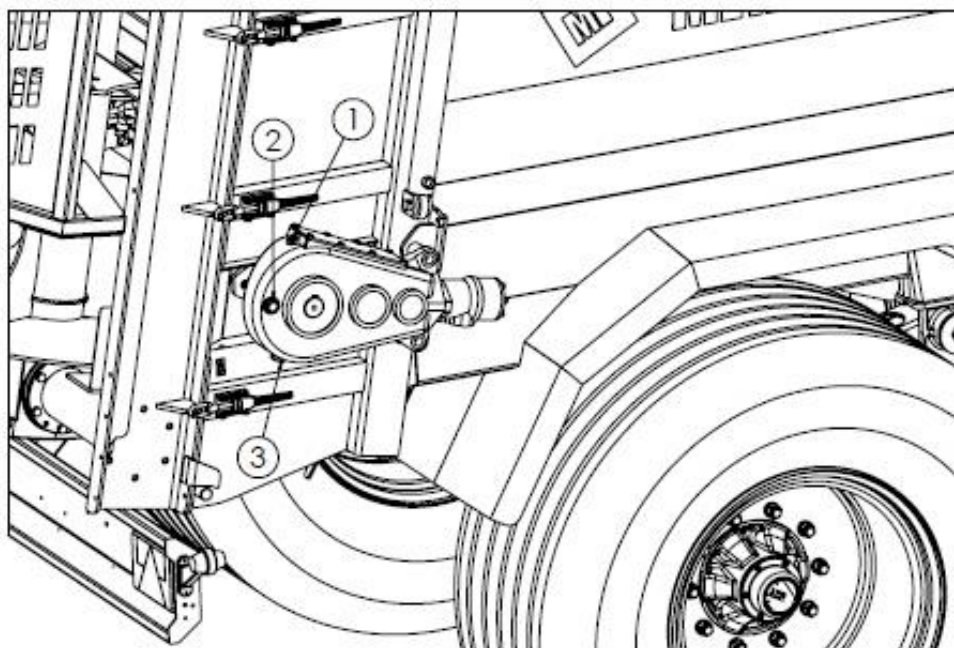

Figure 29. Oil level control points in the floor conveyor's transmission:
To drain the oil from the gear unit (Fig. 29, 30), unscrew the drain plugs (3). Fill the gearboxes with new oil via the oil filler (1) until oil becomes visible in a sight glass (2). The correct oil level is reached when the oil is visible in the middle of the sight glass.